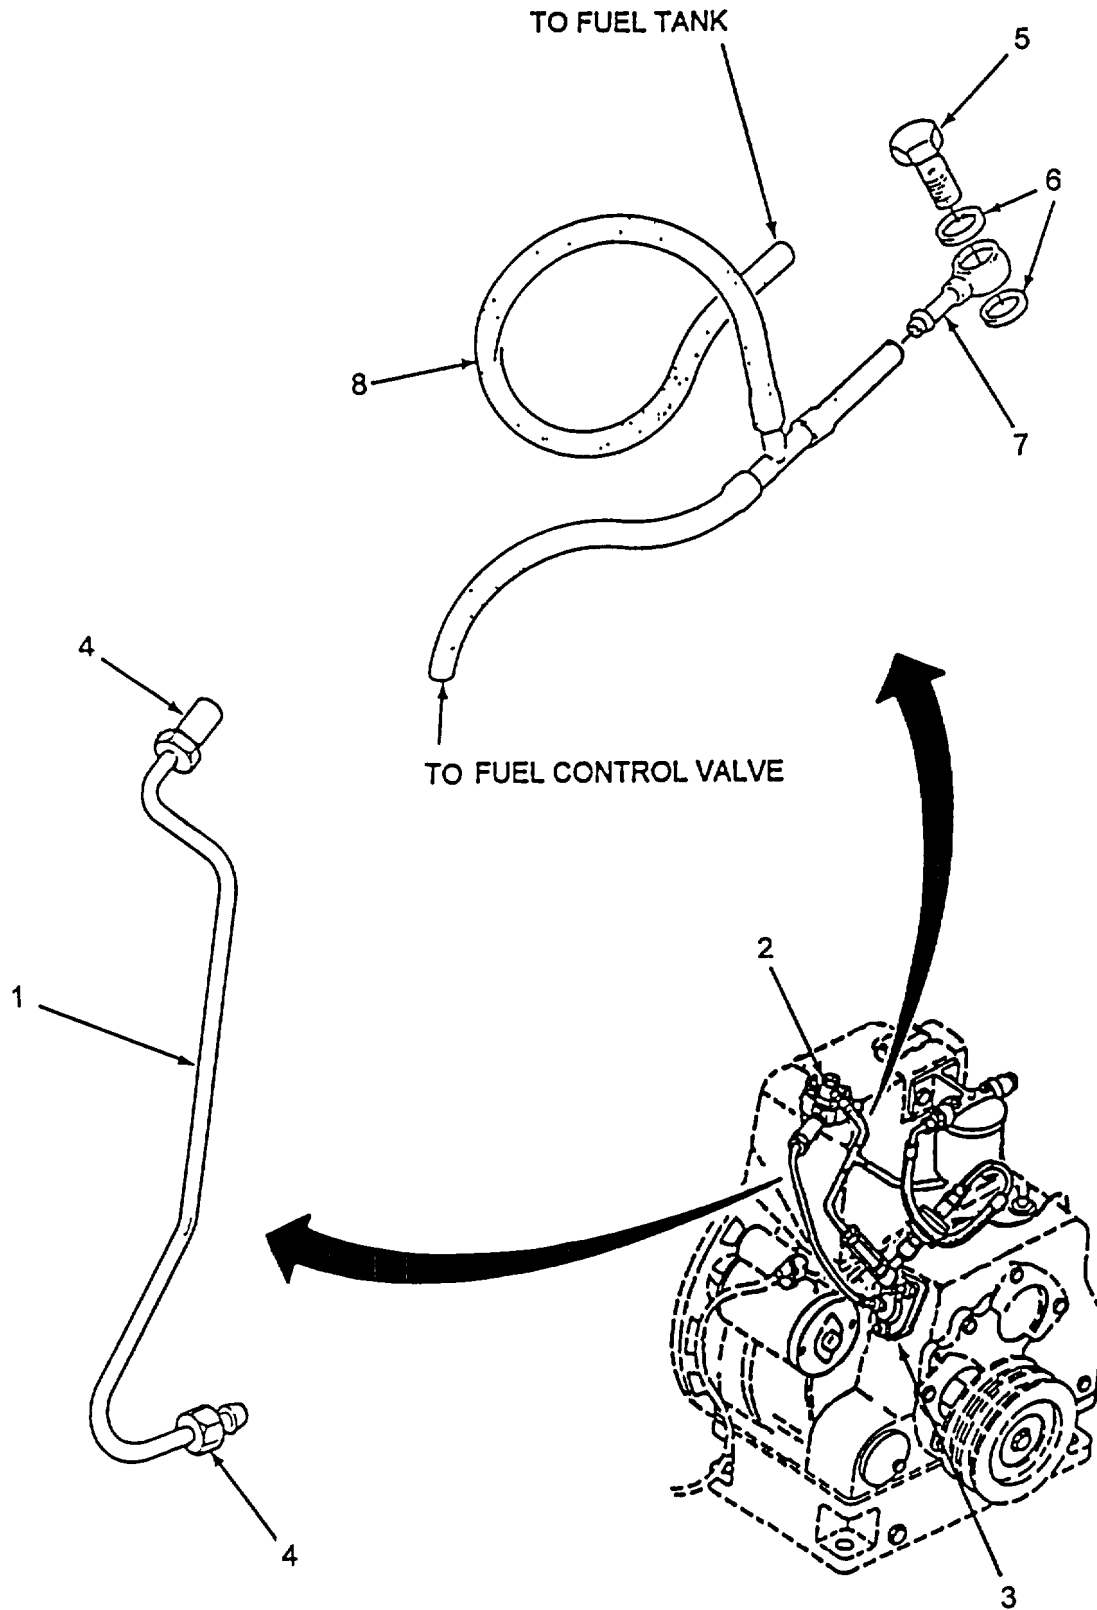

Figure 5-11. Fuel Pipe-Pump and Leak-Off Pipe
(1) Removal. (Refer to Figure 5-11).
- (a) Remove pump-to-injector fuel pipe (1) from fuel injector (2) and fuel pump (3) by removing fuel pipe nuts (4).
- (b) Remove bolt (5), two washers (6), swivel union (7) from top of fuel injector (2). Remove pipe assembly tube (8) from swivel union (7).
(2) Repair.